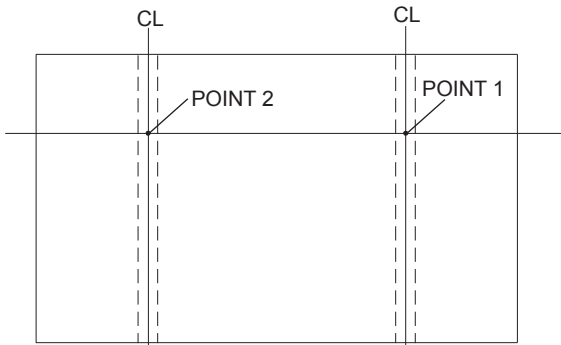
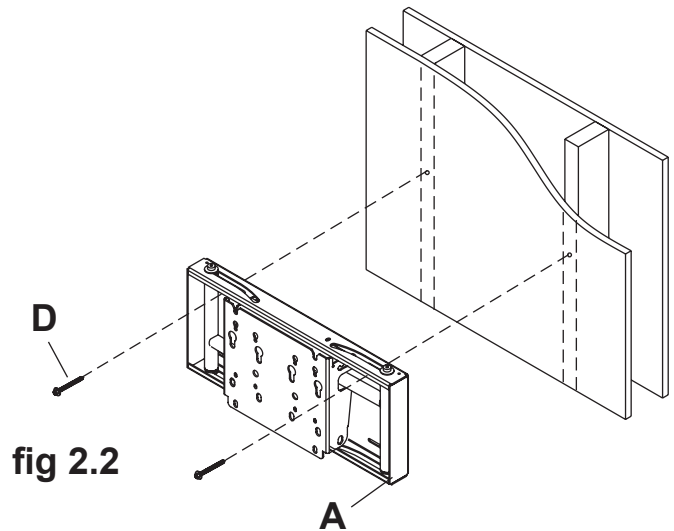

fig 2.1
fig 2.2
**2** Using a stud finder, locate the edges of the wood studs used in mounting this product. Use of an edge-to-edge stud finder is highly recommended. Based on its edges and using a level, draw a vertical line down the center of each stud. Mark a point (**point 1**) on the right stud centerline where upper right slot will be located. Using a level, mark a point (**point 2**) on the left stud centerline level with point 1 as shown in figure 2.1. Drill  $\frac{5}{32}$ " diameter holes 2-1/2" deep through studs at the two points. Loosely fasten wall mount assembly (**A**) to wall using two #14 x 2-1/2" wood screws (**D**) as shown in figure 2.2. Level, hold, and then tighten screws.